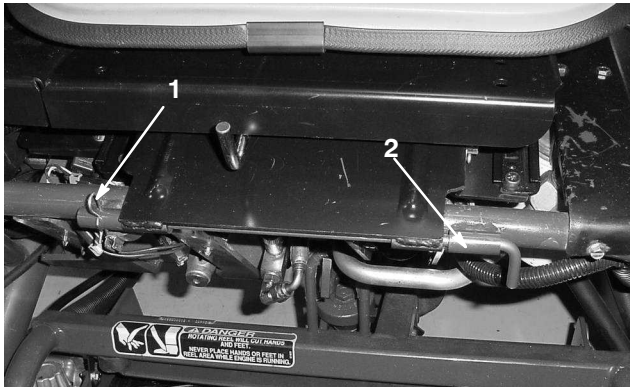

Figure 43
3. Lower the seat and remove the cotter pin securing the seat pivot rod to the frame (Fig. 43).